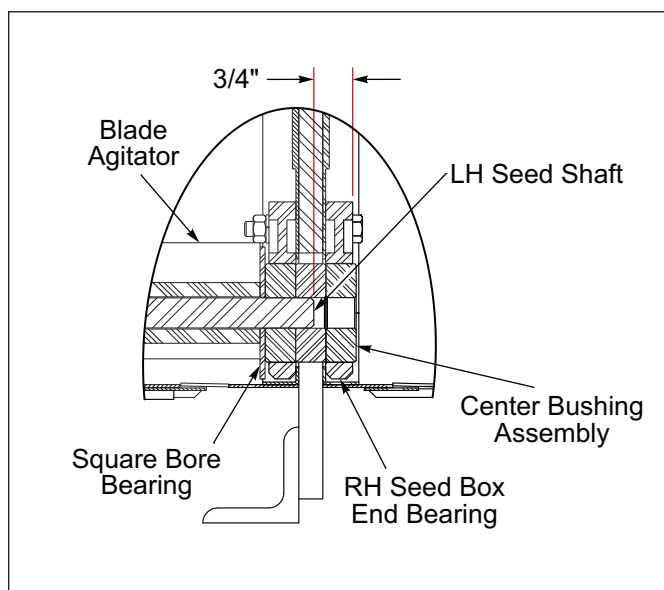

Figure 2-50: Agitator Dimension Detail
7. Reinstall LH Seed Shaft aligning Square Bore Washers, Agitators, Bushings, and Transmission Drive Coupler. Verify Seed Shaft to Transmission Drive Coupler engagement. Measure the distance from the end of the LH Seed Shaft to the center RH Seed Box End Bearing. It should be approximately 3/4". **See Figure 2-50.**